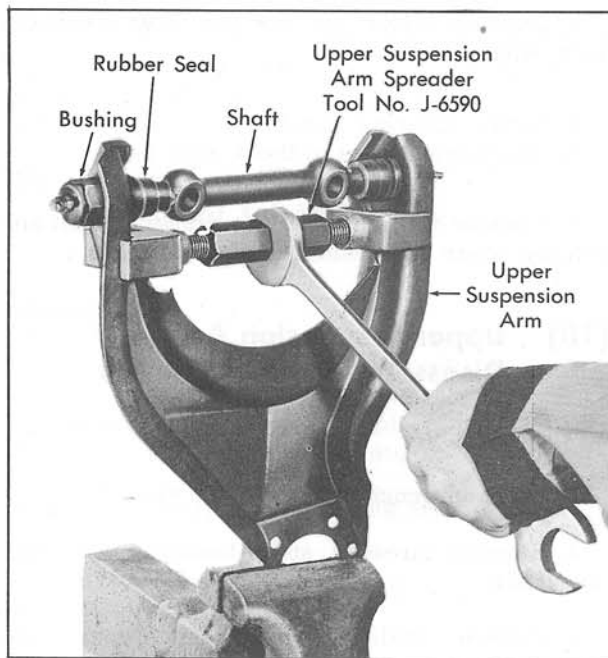

Fig. 4-12 Spreading Upper Suspension Arm
4. Install Upper Suspension Arm Spreader, Tool No. J-6590, between arms as shown in Fig. 4-12, and tighten finger tight. Then, using a wrench, tighten tool two additional flats.